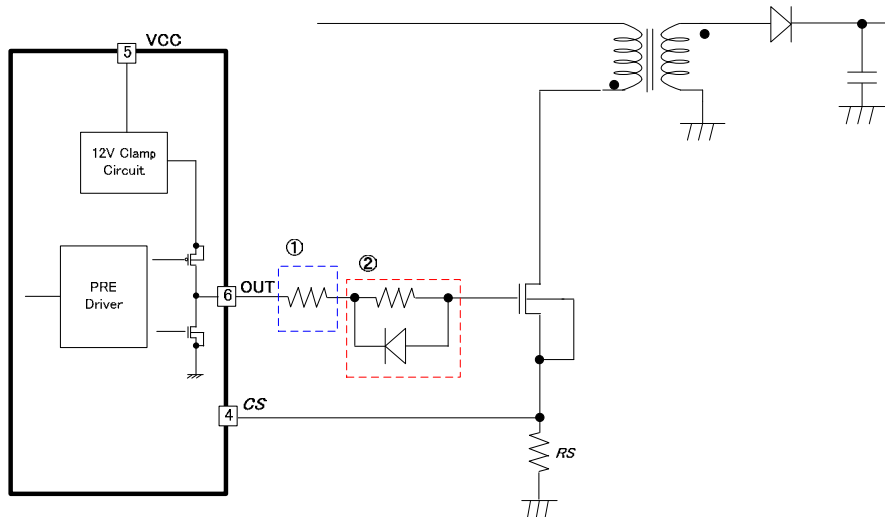

Figure 28. OUT Pin (Pin 5) Driver Circuit
Figure 28 shows a delay circuit for the OUT pin. In Figure 28, ① is valid during both turn-on and turn-off operations.
② shows a delay in the turn-on only, while turn-off is accelerated.
(10) Caution points for board layout pattern